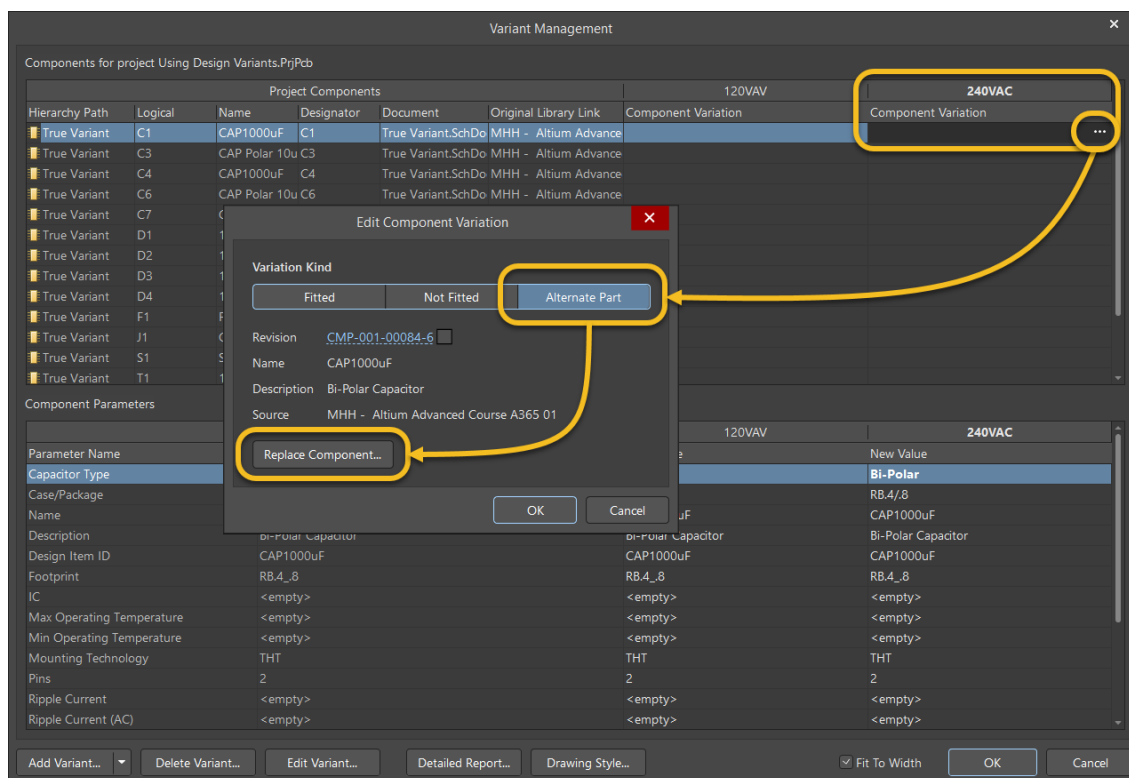

Figure 13. Selecting an Alternative Part
50. Select **Replace Component...** to begin selecting the appropriate part as shown in Figure 13.